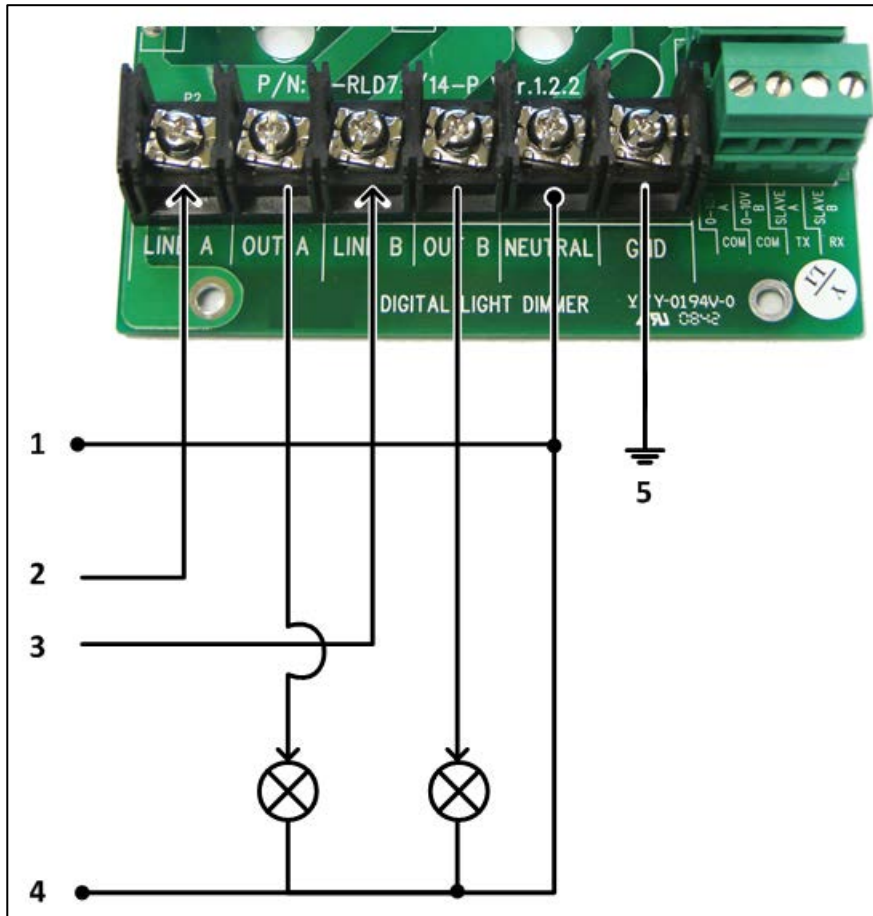

Figure 5: RLD 230V Two Phase Wiring
1. Connect the 0 – 10 VDC (+) and COM (–) wires from the external device to terminal ports "0-10V A", "0-10V B" and COM (Figure 5 and Figure 6).